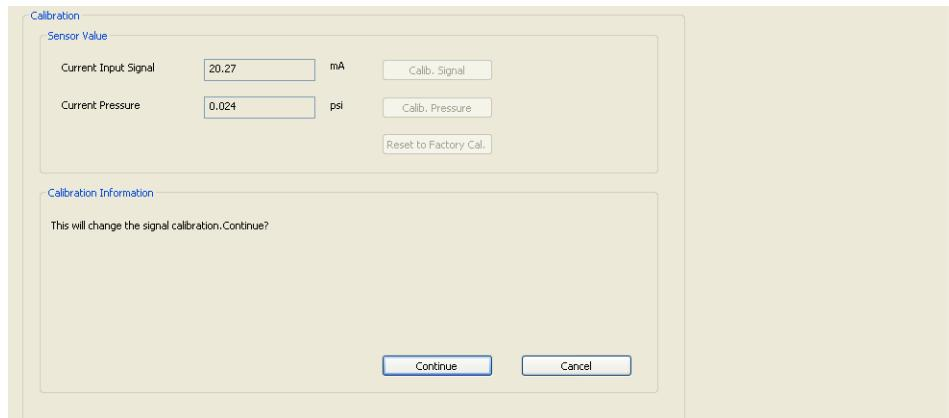

Figure 65 Calibration Calibration Screen with Calibration Information Pane
2. Click **Calib. Signal** and the lower screen changes to Figure 65.
2. Click **Calib. Pressure** and the lower screen changes to Figure 65.
2. Click **Reset to Factory Cal.** and the lower screen changes to Figure 65.